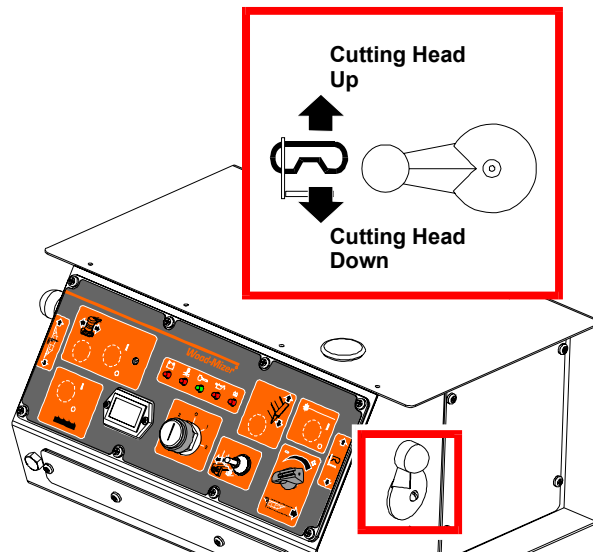

FIG. 2-11
**See Figure 2-11.** The up/down switch is located on the far right side of the control panel. Push the switch up to raise the cutting head; push the switch down to lower the cutting head. Hold the switch in